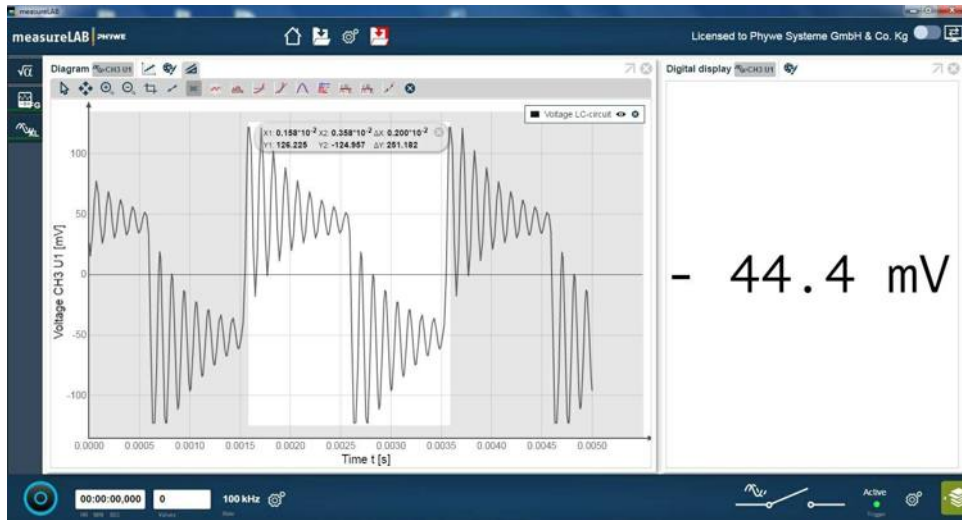

Fig. 3: Damped oscillations. The time for two damped oscillations matches the period time of the square wave signal ($T=0.002s$).
- The measurement stops automatically. The result will be displayed. The time for two damped oscillations should match the period time of the square wave signal (fig. 3).